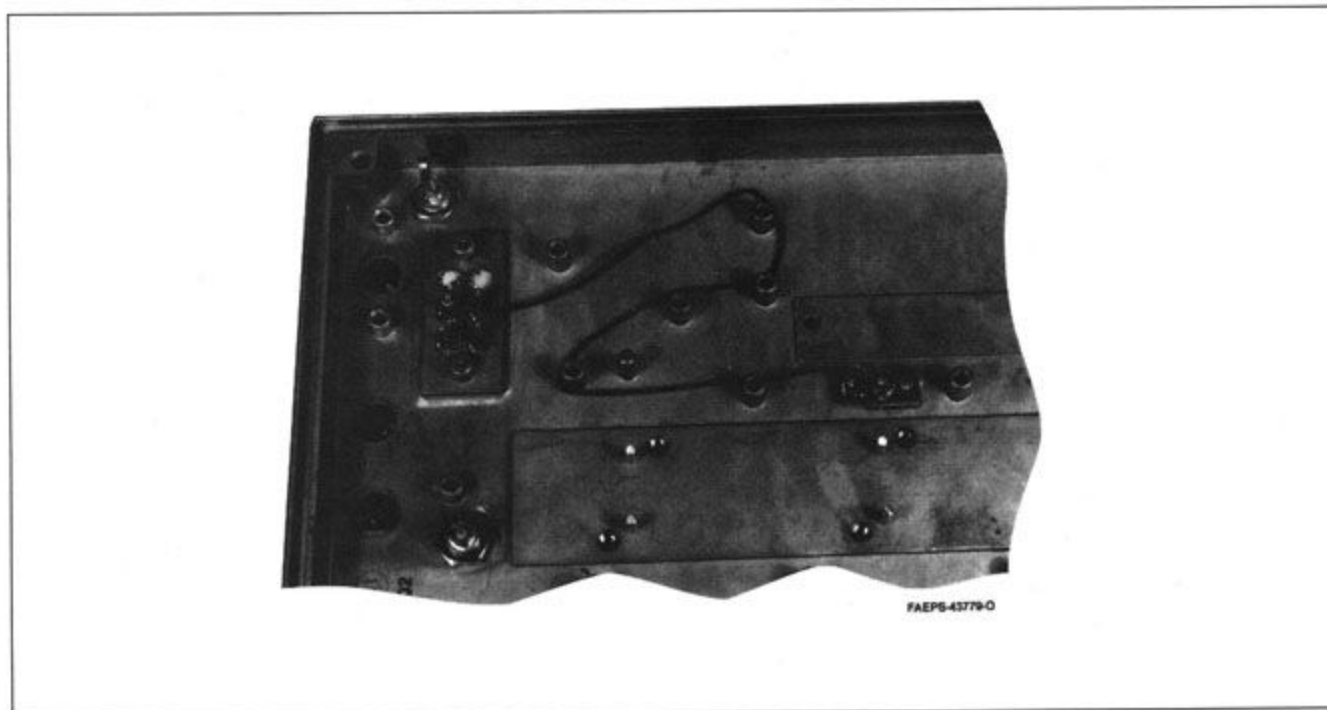

Figure 7. DPA Route of Thermistor Board Output Wire
Step 4. Screw thermistor board to heat sink, taking care to dress brown wire properly. (See Figure 7.)